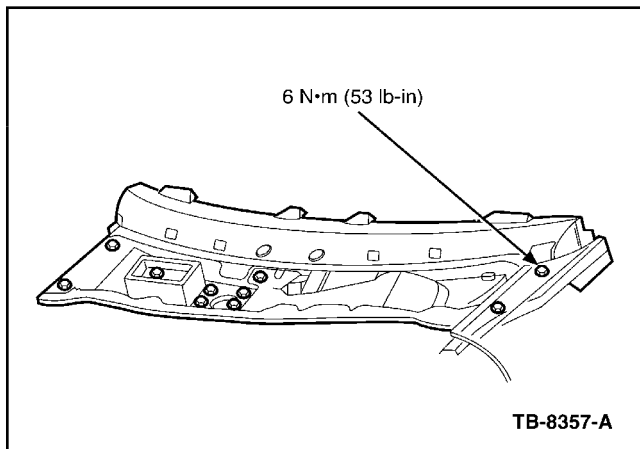

Figure 10 - Article 05-23-7
15. Install the lower cowl panel and 10 retaining bolts (Figure 10).